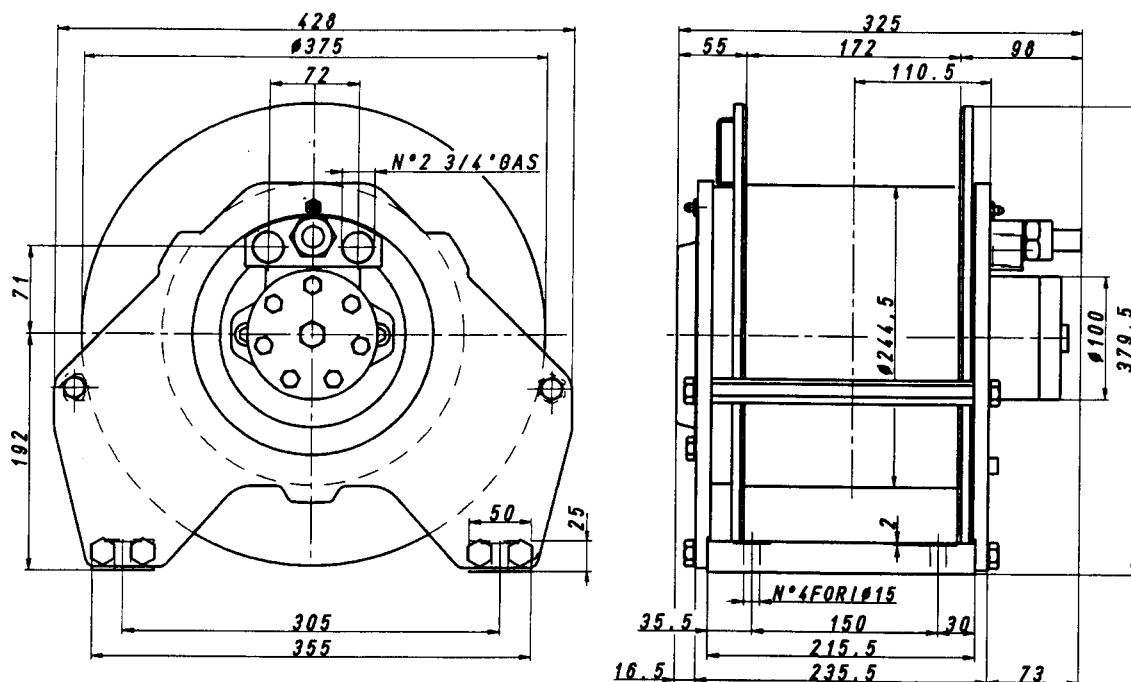

Fig.6-1
6.3 VERRICELLO (Fig. 6.1)
6.3 WINCH (Fig. 6.1)